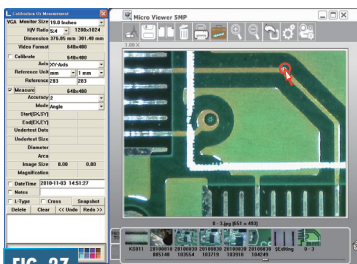

FIG. 27
5. Click and hold the right button of the mouse at the first point. (Fig. 27)